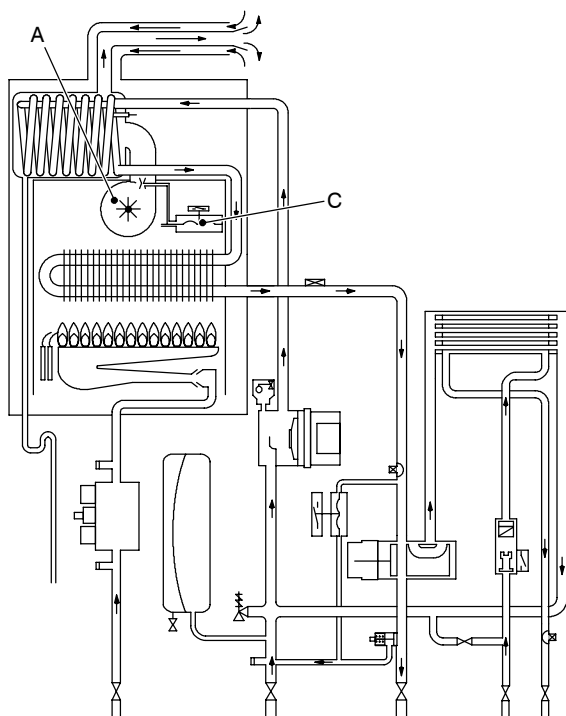
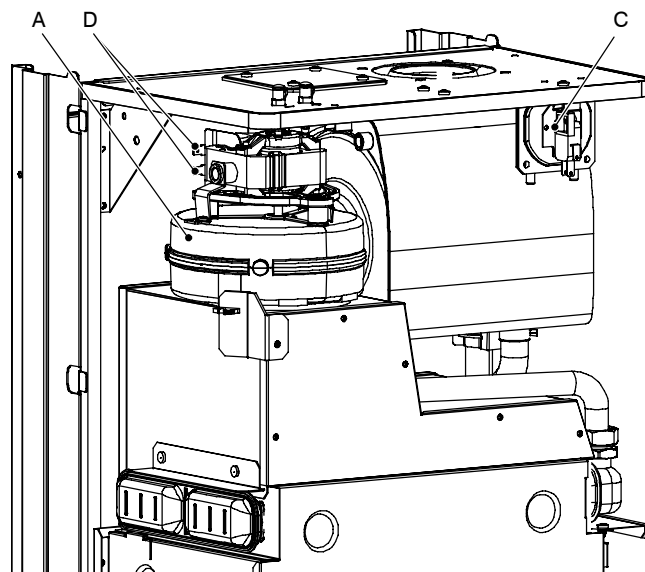
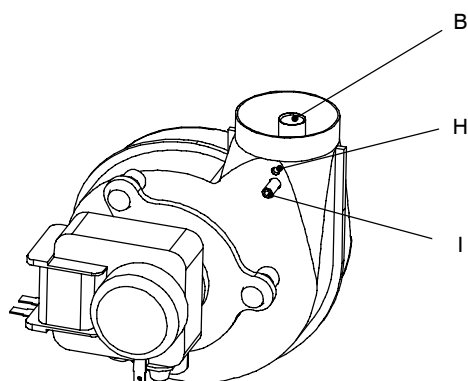

Fig. 74
Fig. 75
Fig. 80
The function of the Fan A (Fig. 74 and Fig. 75) is to force the products of combustion through the condensing heat exchanger to the outside air via the flue system.
Its correct functioning is controlled by means of a system incorporating a built in venturi device (B in Fig. 80) and an Air pressure switch C (Fig. 74 and Fig. 75).
- 2 Disconnect the connectors D (Fig. 75) and measure the electrical resistance of the motor that has to be about:
- 2 Disconnect the connectors *D* and the earth connection *E* (Fig. 75).